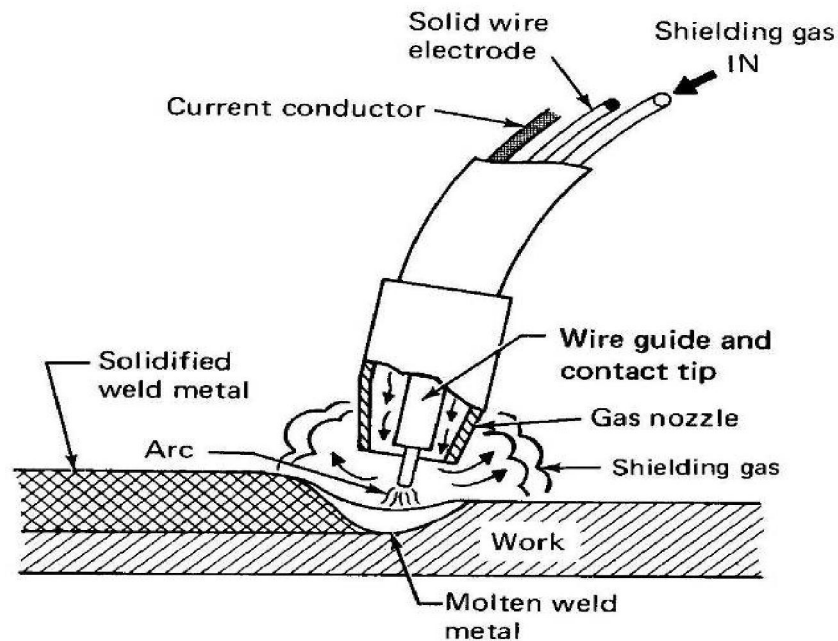

Figure 4.3
With a 'flat' volts/amperes characteristic an attempted alteration in arc length (volts) will have little effect, hence arc length (volts) remains constant but a significant change in current will result. This is often referred to as the 'self-adjusting arc'. Metal Inert Gas (MIG) welding is a 'flat' arc process (constant voltage). Also known as Metal Active Gas (MAG); CO₂; Metal-arc Gas Shielded, flux core and GMAW (US). MIG can be used on all materials, in all positions, with high productivity and low heat input. There is no CO₂ MIG welding with stainless steel. Normally DC positive though some flux core uses DC negative (Figure 4.3)